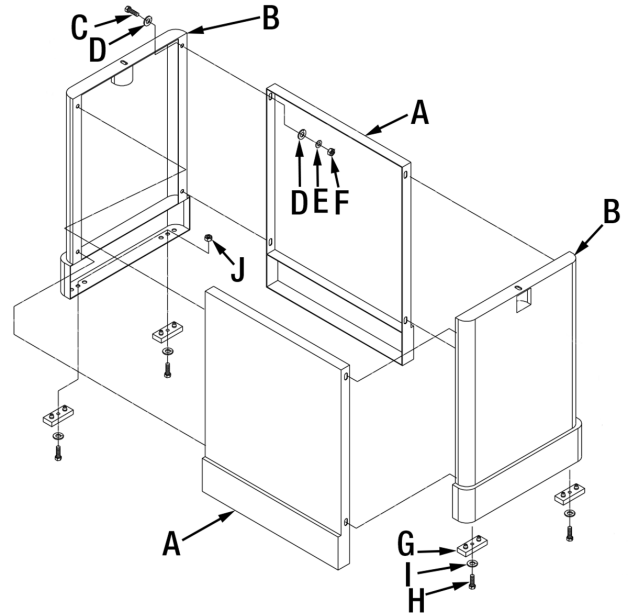

Figure 4
1. Assemble the front and rear stand panels (A) Fig.4 to the two side panels (B) using 8 hex. bolts (C), 16 washers (D), 8 spring washers (E) and 8 hex. nuts (F).
2. Turn the assembled stand upside down, and install the 4 rubber feet (G) Fig.4 as shown using 4 hex. bolts (H), 4 washers (I) and 4 hex. nuts (J).